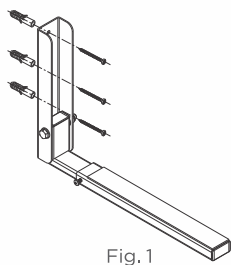

Fig. 1
1. Fix the brackets on the wall by using wall plugs and screws provided (Refer Fig. 1). The wall onto which the fixed bracket is attached must be of solid wood, brick work or concrete only. Do not use on plywood, blockboard, etc